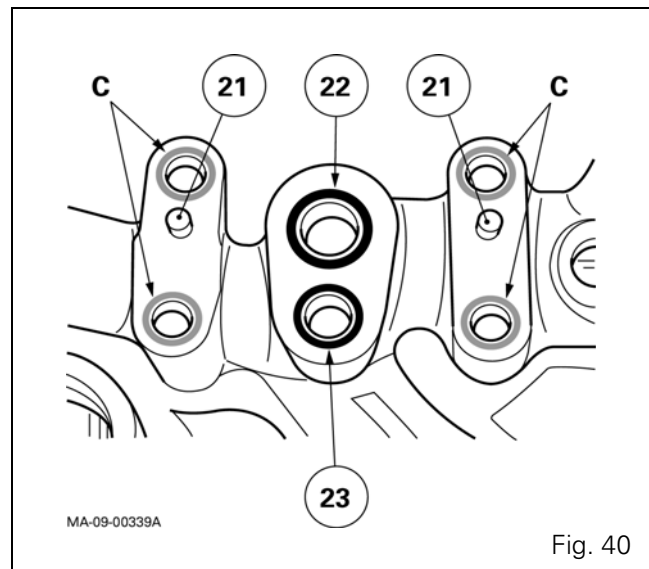

Fig. 40
89. Fit the locating pins (21) (if necessary) to the cover (Fig. 40).
90. On the cover, fit new O'rings (22) (23) in the recesses of the high and low flow rate channels (Fig. 40).
91. Inside the cover, apply a bead C of Loctite 574 around the four pump fixing screw holes (Fig. 40).